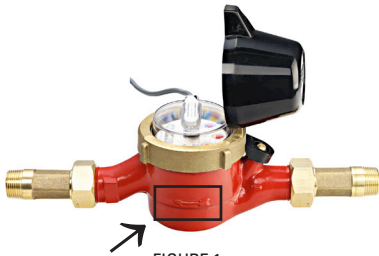

FIGURE 1
1. Correct direction of flow is indicated on the water meter body (see Figure 1).